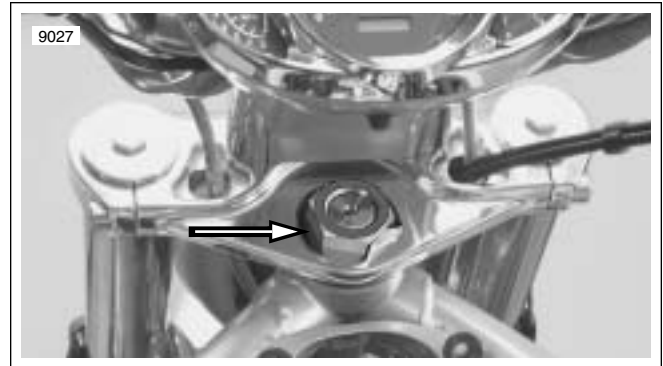

Figure 1-53. Steering Head Fork Stem Nut
- a. See Figure 1-53. Remove fork stem cap, bend down the fork stem lockwasher tabs, and loosen fork stem nut.